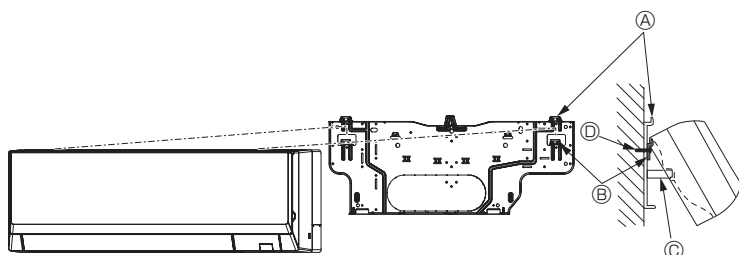

Fig. 3-13
- When the indoor unit cannot be hanged and lifted up with the regular hook (the dimension of 2.1. ⓐ (the clearance between the ceiling and the unit) is 75 mm or less), hang the unit on the lower hook for left piping. (Fig. 3-13)
(Fig. 3-13)